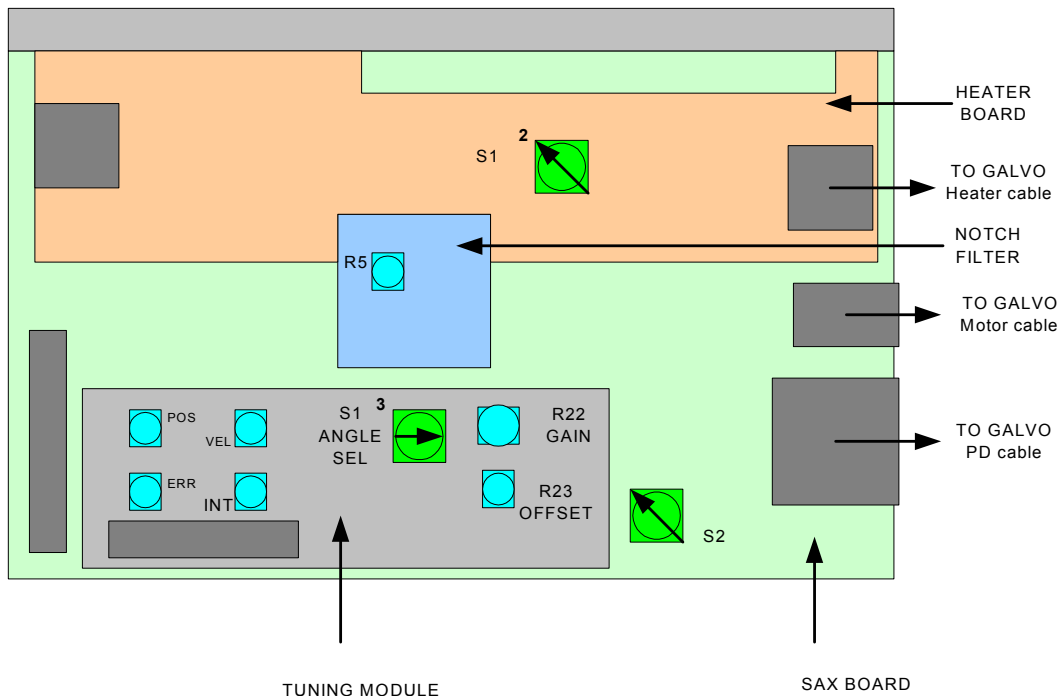

Figure 7.3: Components of the MiniSAX board. Note location of Offset pot on Tuning Module.
4. Fine adjustments can be made by adjusting the “OFFSET” pot of the Z-axis MiniSAX, see figure 7.3 below. Do not touch the other pots!